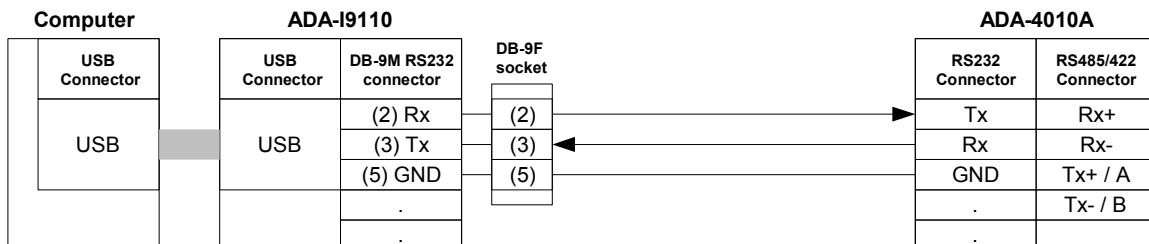

Fig 4. ADA-4010A connection to Computer using USB to RS232 converter (ADA-I9110/ADA-I9111)
- USB port of computer you need additional converter USB to RS232 e.g. ADA-I9110 converter or ADA-I9111 converter. Typical connection of ADA-4010A to PC is shown on Fig. 4.